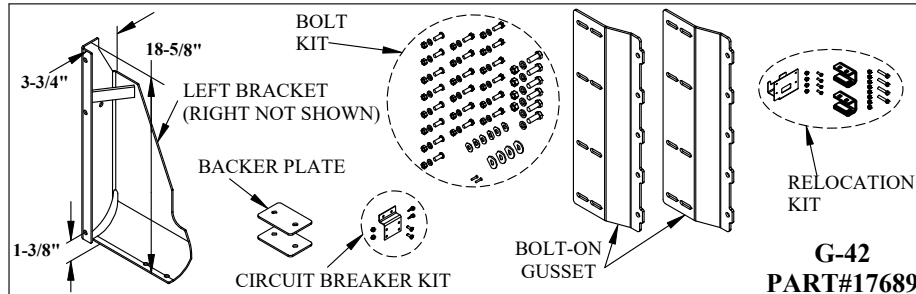

Figure 1: G-42 Part Identification.
2. Verify mounting bracket kit (Figure 1 and Table 1).